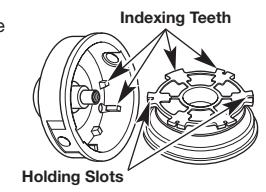

Fig. 12
- Check the indexing teeth and holding slots for wear (Fig. 12). If necessary, remove burrs or replace the inner reel and outer spool.